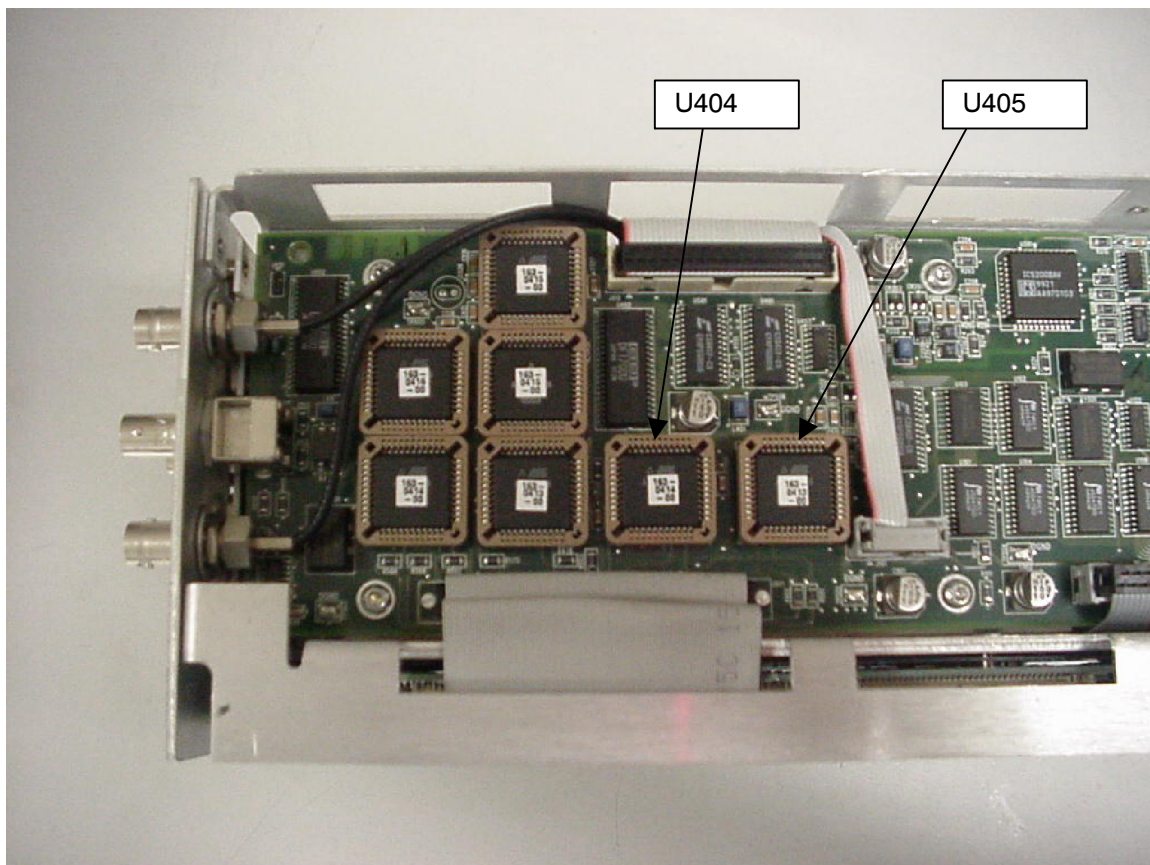

Figure 9: Portion of the AES board, showing locations of U404 and U405
1. Carefully pull each old part up and off the board. See Figure 9 for part locations.